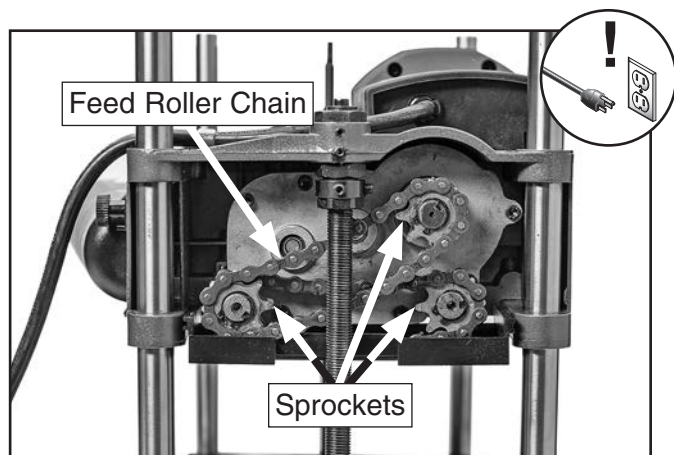

Figure 37. Cutterhead elevation leadscrews and feed roller drive chain exposed for lubricating.
2. Remove top and side covers to expose sprockets and chains (see **Figure 37**).